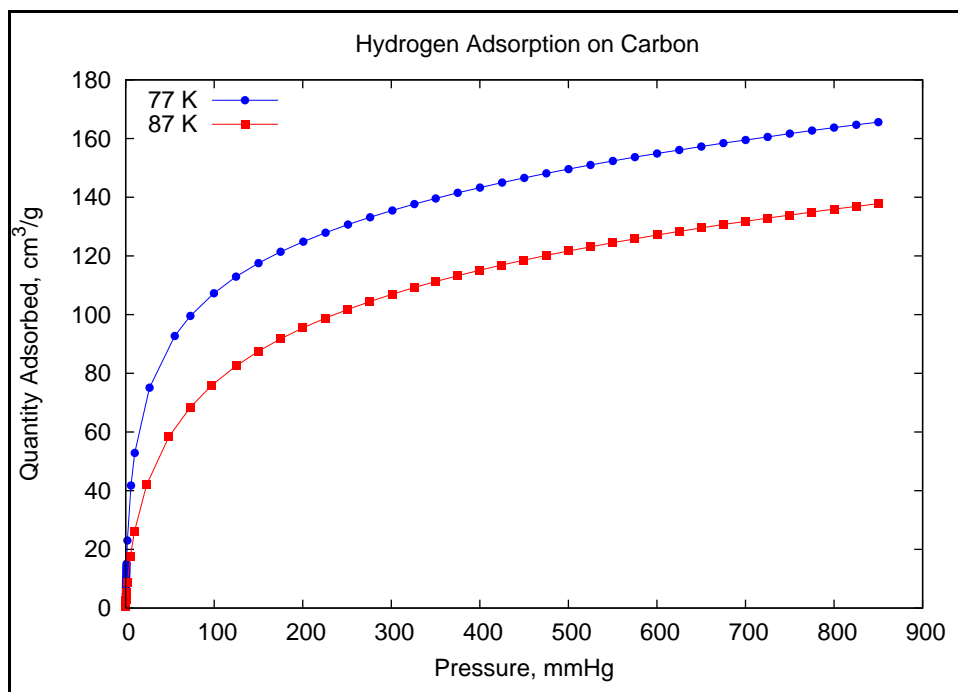

Figure 1. Example Hydrogen Adsorption Isotherm
- b. Select **Tabular report**, **Linear Absolute plot** (example data shown in Figure 1), **Logarithmic Absolute plot**, and **Pressure Composition plot** (example data shown in Figure 2).